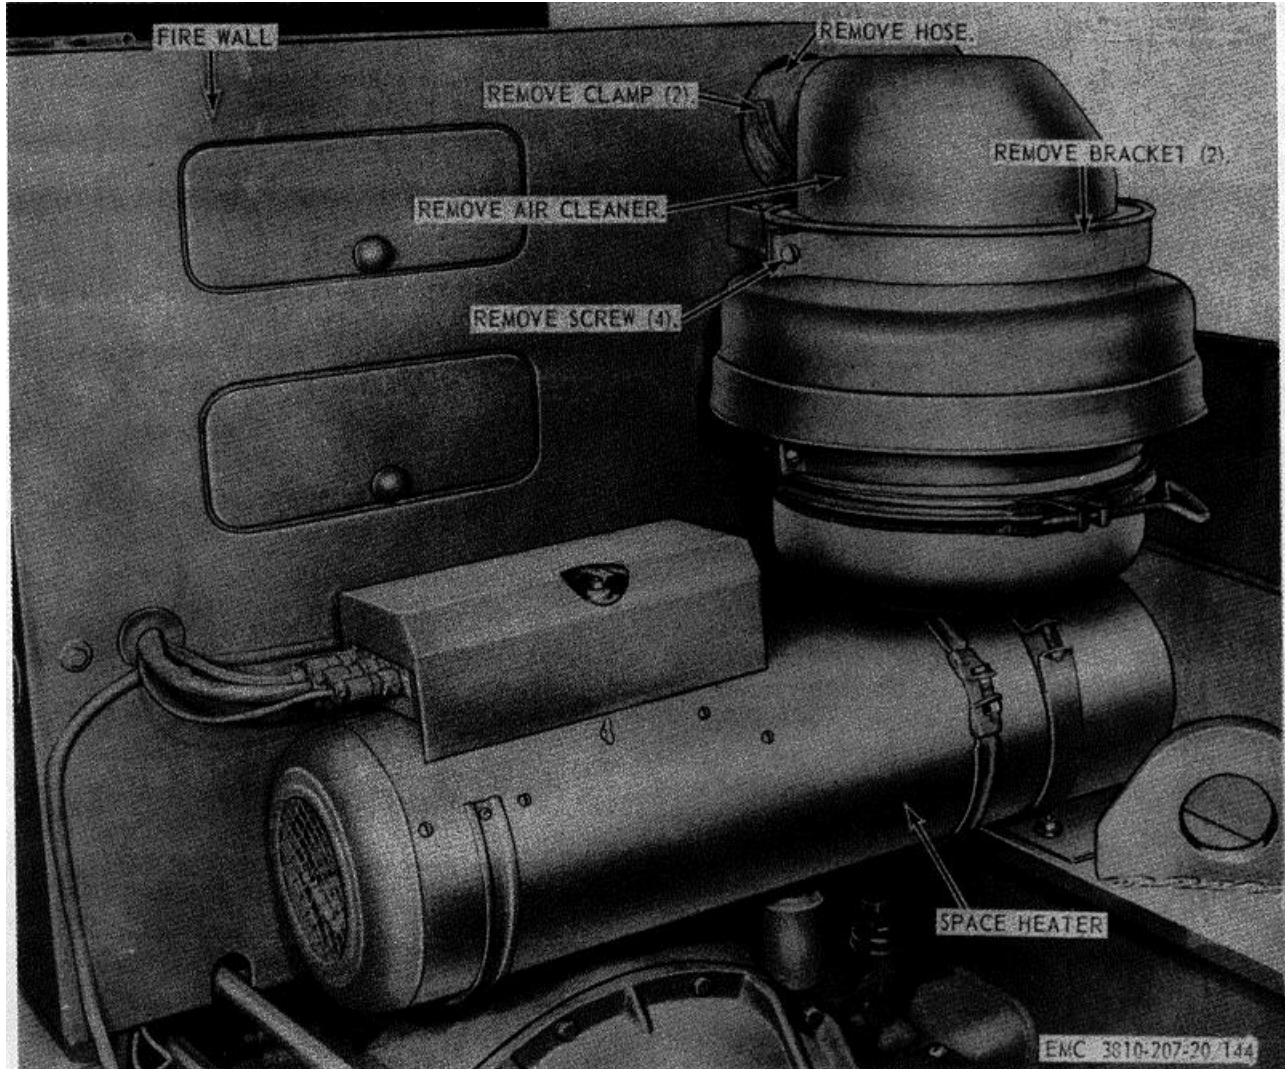

Figure 144. Carrier engine air cleaner, removal and installation.
e. Installation. Install the air cleaner as illustrated on figure 144.
a. Removal. Remove the air cleaner as instructed on figure 144.